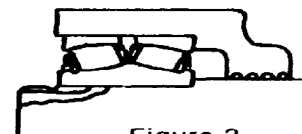

Figure 3
4. Insert remaining outer ring of A20000 or spacer then outer ring of A20000M bearing (Figure 3). Press outer ring squarely against spacer and rotate shaft slowly to properly align the outer ring.